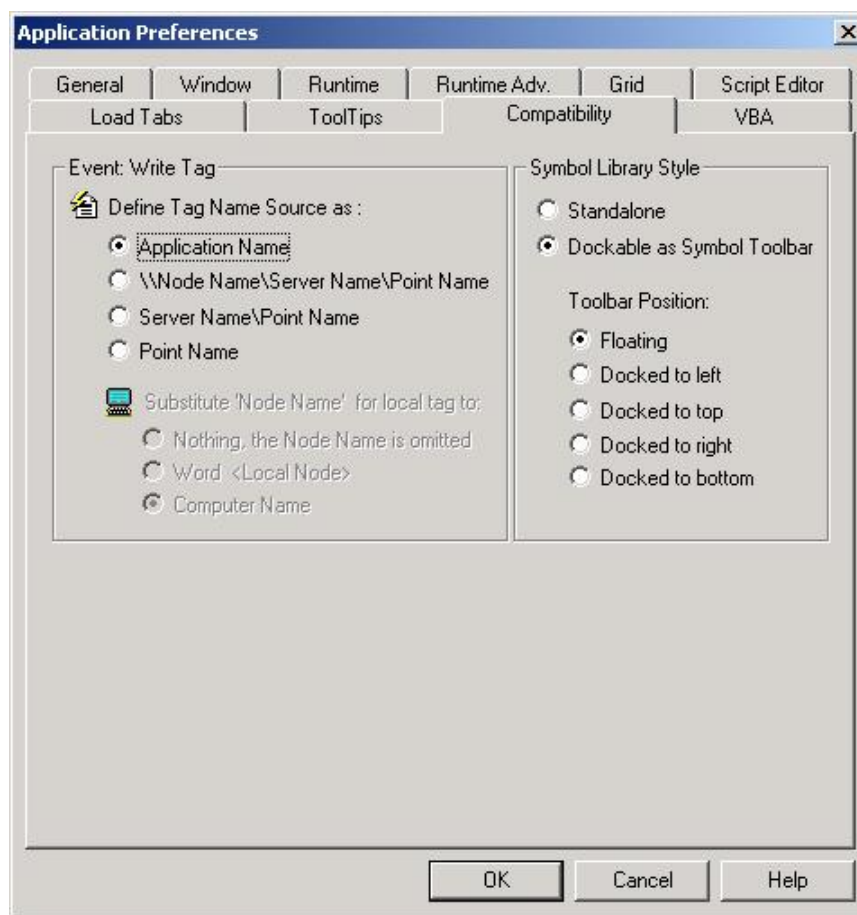

Figure 5.2. Application Preferences toolbox
2. Select the Compatibility tab and then check **Dockable as Symbol Toolbar** option in the **Symbol Library Style**, as shown in Figure 5.2.